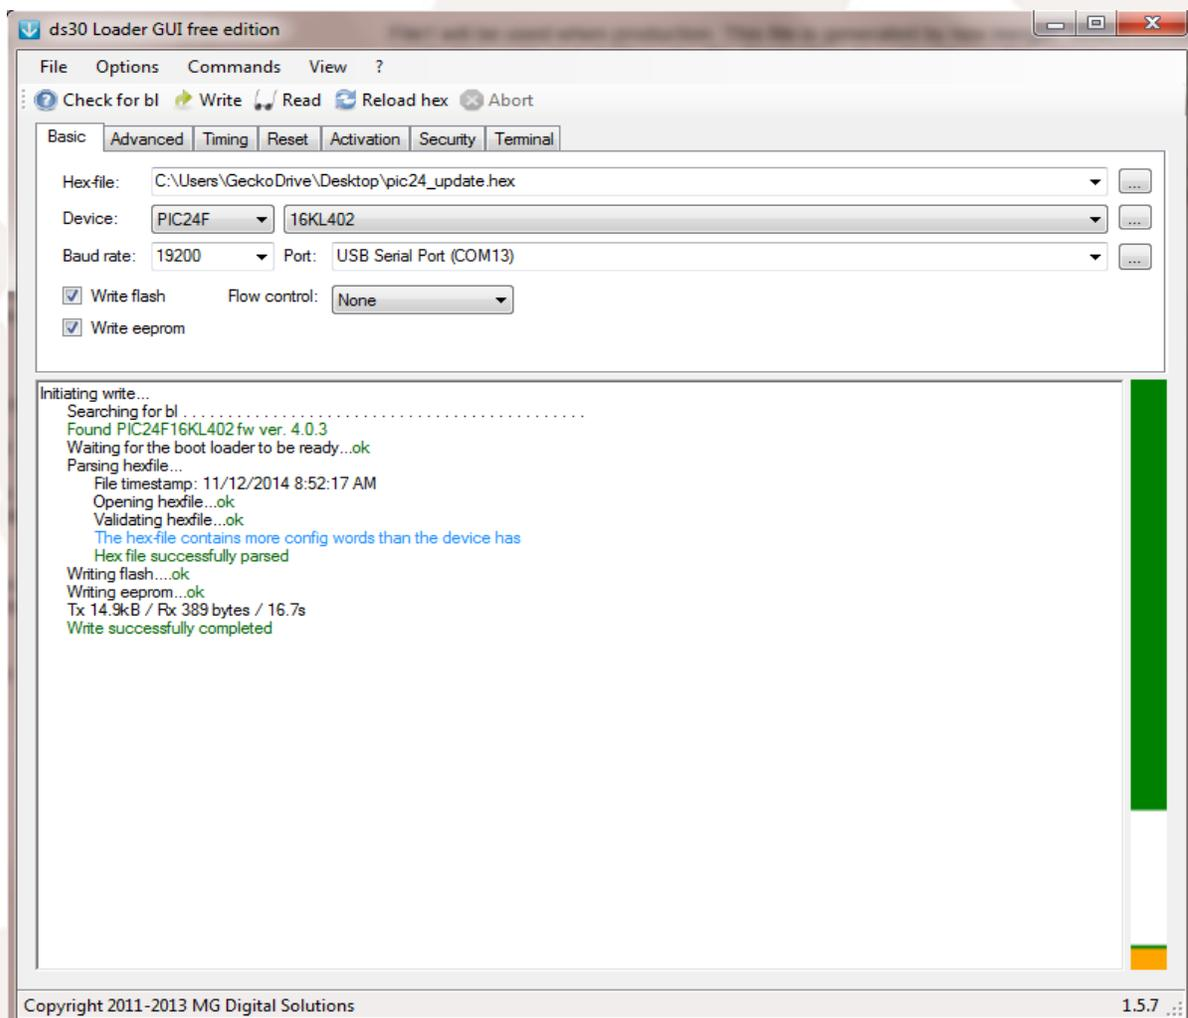

Figure 25: ds30 Loader GUI
4. Go to section **C (DS30 LOADER GUI)** to continue (Figure 25).
Go to section **C (DS30 LOADER GUI)** to continue (Figure 25).
- Go to section **C (DS30 LOADER GUI)** to continue (Figure 25).
- 5) Set **Device** to **PIC24F** and **16KL402** (see Fig 25).
- 7) Check (yes) **Write flash** checkbox and **Write eeprom** checkbox (see Fig 25).
If the procedure is performed properly, it will execute Write command and "Write successfully completed" will be displayed at the end (see Fig 25).